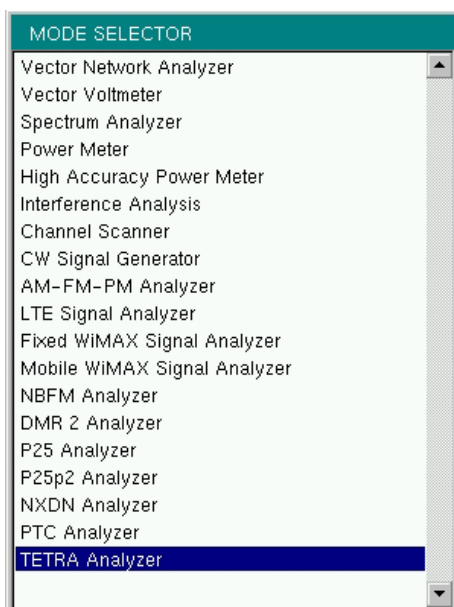

Figure 2-14. Mode Selector Menu
To access the functions under the Mode menu, press the **Shift** key, then the **Mode** (9) key. Use the directional arrow keys, the rotary knob, or the touch screen to highlight the selection, and press the **Enter** key to select. The list of modes that appear in this menu varies depending upon the options that are installed and activated in the instrument. Figure 2-14 is an example of the Mode menu. Your instrument may not show the same list. The current mode is displayed below the battery symbol.